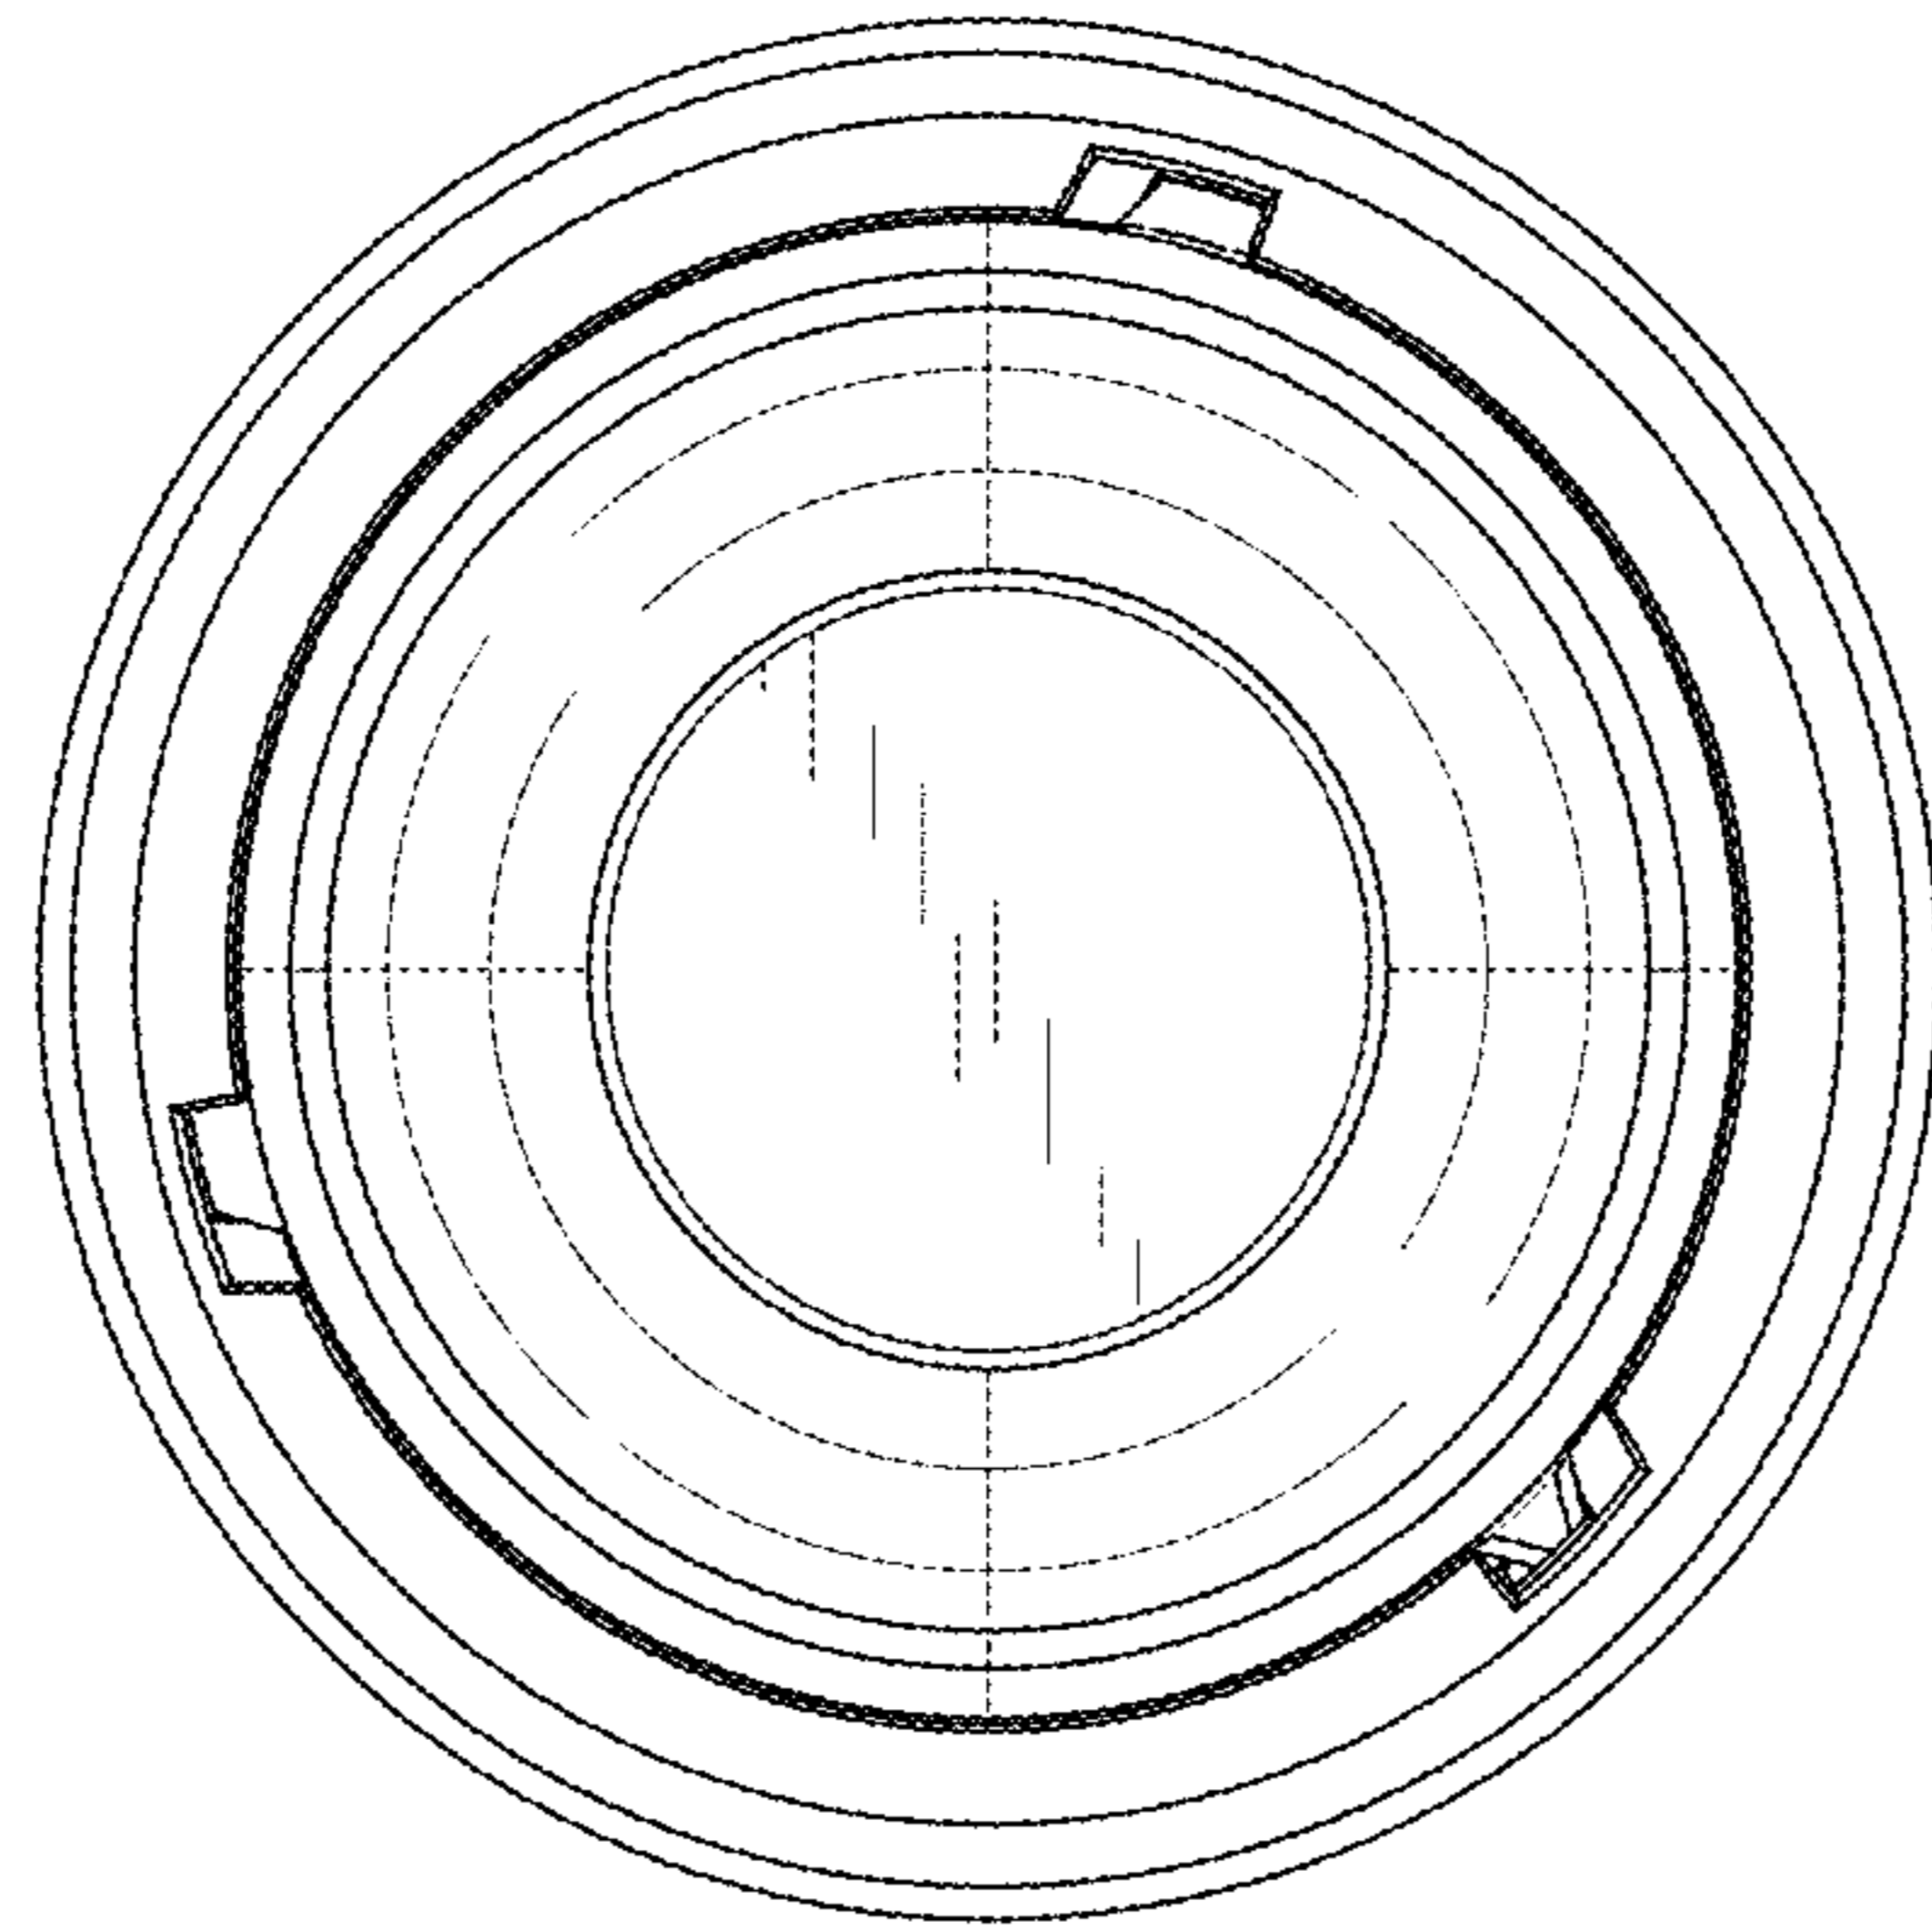

FIG. 5
- FIG. 5 is a top view thereof.